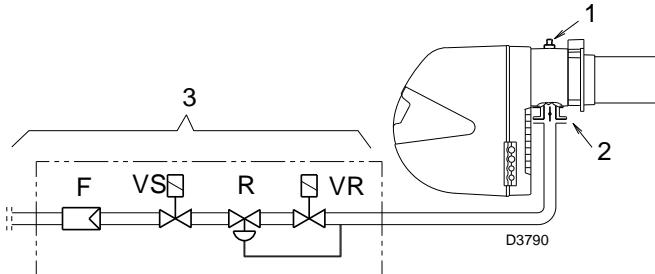

Fig. 18
Gas pressure at test point 1) (Fig. 18), with combustion chamber at 0 mbar;
Pressure loss at gas butterfly valve 2) (Fig. 18) with maximum opening: 90°.
Pressure loss of gas train 3) (Fig. 18) includes:
- subtract the combustion chamber pressure from the gas pressure measured at test point 1) (Fig. 18).
Gas pressure at test point 1) (Fig. 18) = 14.1 mbar
To calculate the required gas pressure at test point 1) (Fig. 18), set the MAX output required from the burner operation:
- read, on the right (column 1), the pressure at the test point 1) (Fig. 18).
Pressure required at test point 1) (Fig. 18).